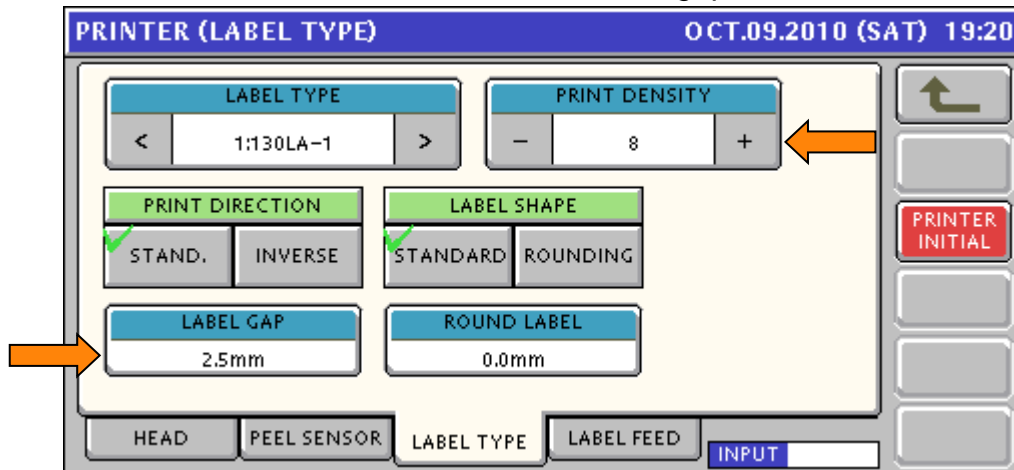

Figure 71. Printer – Label Type Section Settings
- j. If the values are known enter them as needed. If not, check and adjust the **PRINT DENSITY** and **LABEL GAP** settings. See Figure 71.